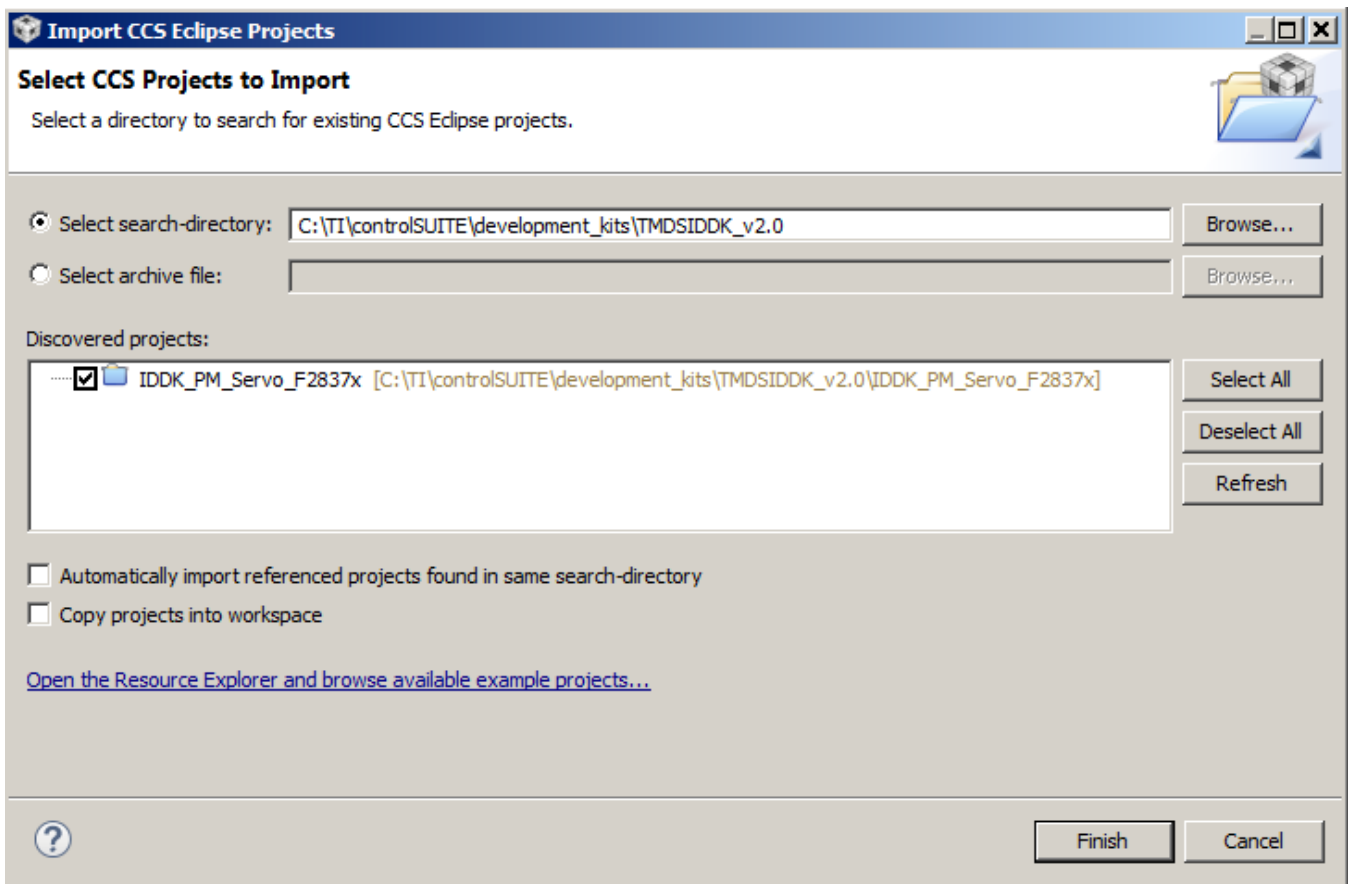

Figure 4-3. Adding an IDDK Project to Workspace
30. To select the IDDK project, navigate to: `C:\TI\controlSUITE\development_kits\TMDSIDDK_v2.0\IDDK_PM_Servo_F2837x` (see Figure 4-3).
- (a) Click the projects to import. (Figure 4-3 shows one project in the directory.)